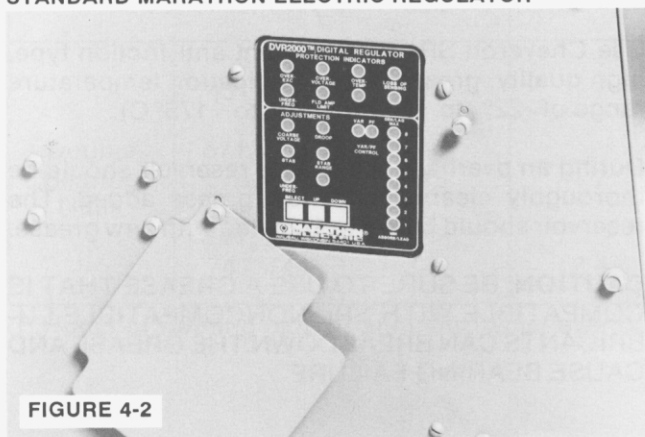

FIGURE 4-2
4. Replace the regulator fuse and adjust the voltage to the required value (Figure 4-2). Check all line to line and line to neutral voltages to be sure they are correct and balanced. If the voltages are not correct, shut down immediately and recheck all connections. See Section 3.
The generator output voltage is controlled by the voltage regulator. There is a cover to access the control panel on the side of the generator conduit box (Figure 4-2). Refer to the regulator manual for detailed information. In cases where special or remote mounted regulators are used, refer to instructions supplied by the generator set assembler and to the voltage regulator manual.